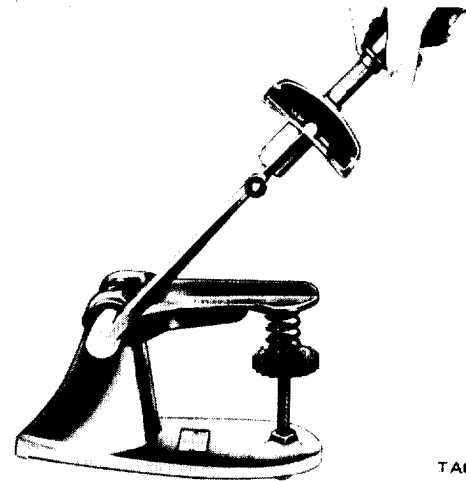

Figure 11-22. Testing Valve Springs,
(1) *Intake valve springs.* Turn the table of the valve spring compression tester (figure 11-22) until the surface is in line with the 1-1/4 inch mark on the threaded stud, with the zero mark to the front. Place the spring over the stud on the table, and lift the compressing lever to set the tester's tone device. Then pull on the torque wrench until you hear the tone device ping. The reading on the torque wrench at this instant should be 88 to 96 ft-lbs (equivalent to 177 to 192 pounds of pressure).